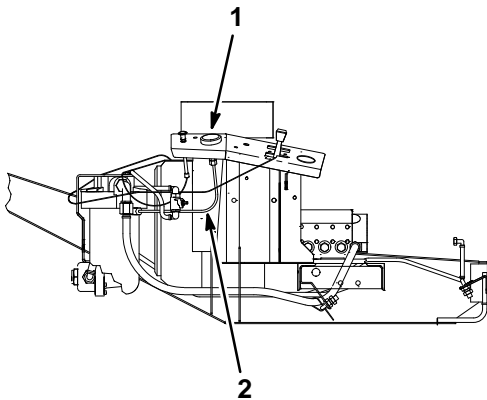

Figure 7
15. Remove the old pressure gauge hose from the pressure gauge (Fig. 7).
16. Install the new pressure gauge hose (.312"/8 mm O.D. black nylon) from the pressure gauge to the new plastic pressure gauge fitting on the pump. Cut the hose to length as required (Figs. 7 and 8).